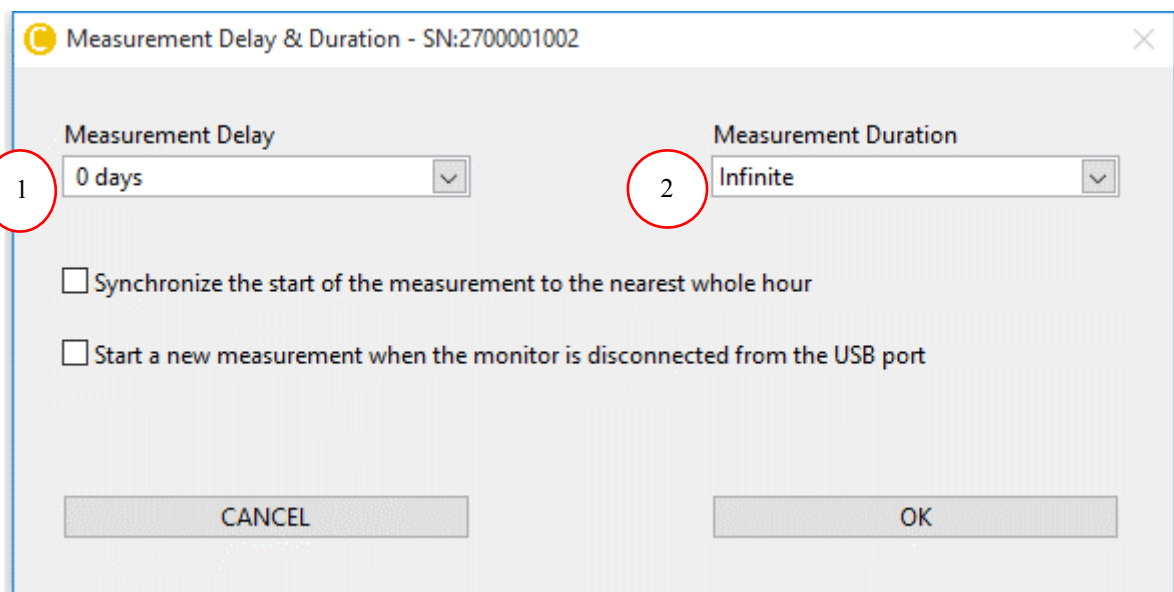

Figure 4-42: Measurement Delay & Duration Window
1. Measurement Delay & Duration : Window pops up as shown in Figure 4-42. Delays the measurement for the time set. Locks the monitor during the measurement duration. During the measurement duration the monitor acquires data but remains non responsive to any button push/interface